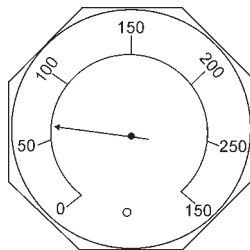

Figure 25. Hydraulic Oil Temperature Gauge
9. Let the pump cycle until the hydraulic oil temperature (Figure 25) is approximately 50 to 60 degrees fahrenheit.